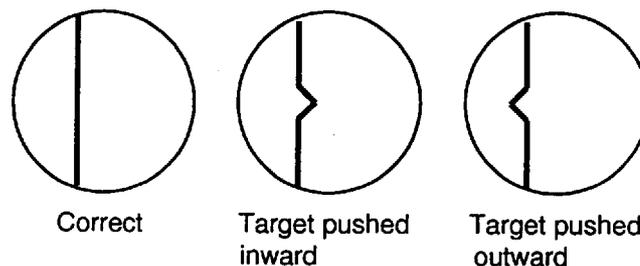

Fig. 3-3 Examples of correct and incorrect sweep timings
- The echo of a "straight" target (for example, pier), on the 0.25nm range, will appear on the display as being pulled inward or pushed outward. See Figure 3-3.